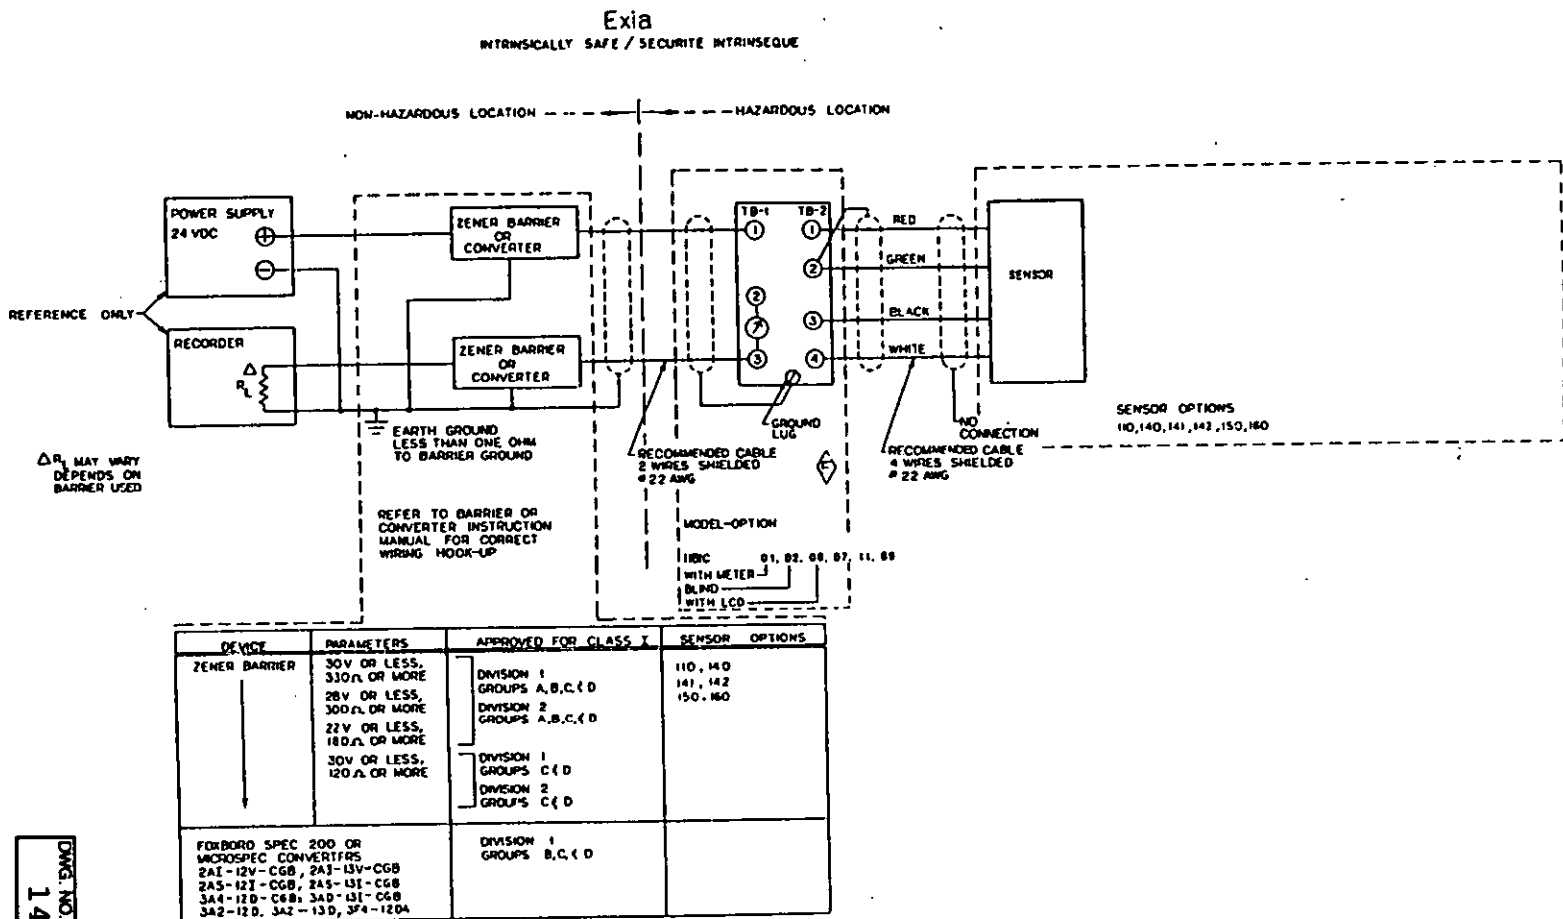

FIGURE 2-6. Schematic System 1181C, CSA
2. Code 69 must be specified when ordering CSA (Canadian Standards Association) units. Installation must be performed in accordance with Drawing Number 1400125 (see Figure 2-6).